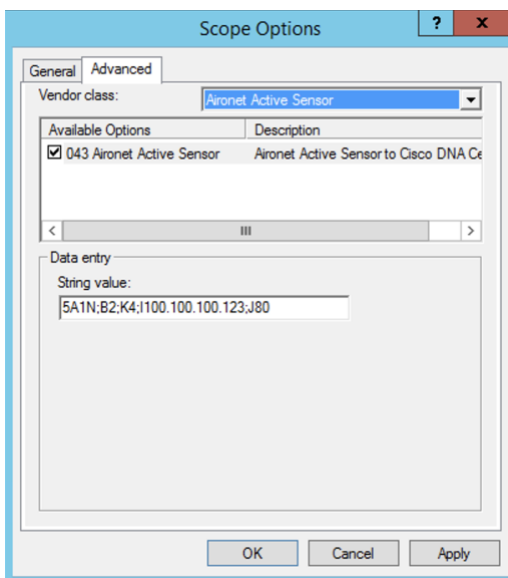

Figure 28.
7. Under your DHCP IP Scope, right click on **Scope Options** and a **Scope Options** dialog will appear (**Figure 28.**).